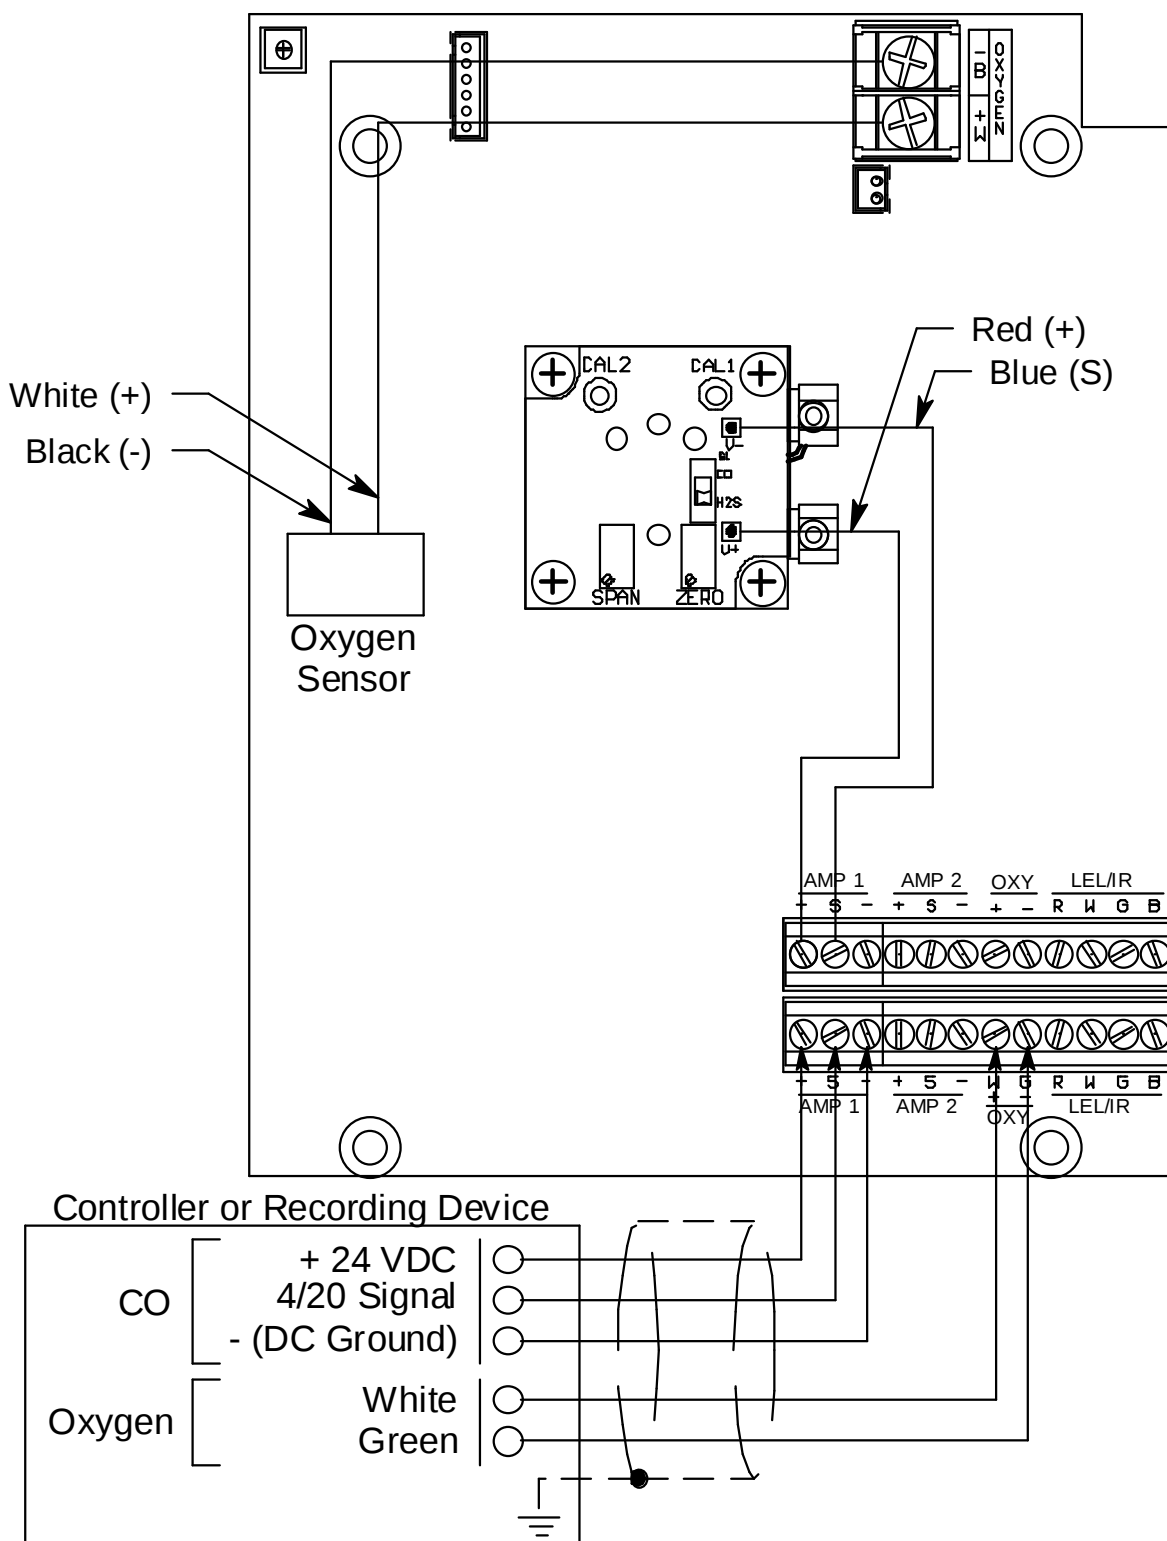

Figure 5: Wiring the Sample-Draw Detector to a Controller
5. Connect the cable to the sample-draw detector’s interconnect terminal strip as shown in Figure 5.
8. Connect the wires to the applicable detector/transmitter terminal strip at the controller as shown in Figure 5. Refer to the controller operator's manual and the controller detector head specification sheet for the 35-3001-10 for detector/terminal strip connections specific to the controller.
8. Guide the wires and lugs of the replacement sensor to the oxygen terminal strip and insert each lug into the appropriate terminal. See Figure 5 on page 14 for wiring connections. Tighten the screws on the terminal strip.